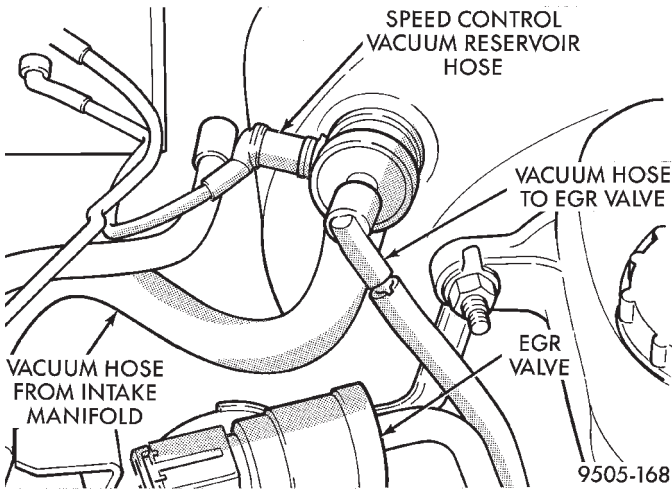

Fig. 57 Vacuum Hose Attachment To Check Valve
(5) Remove the vacuum hoses (Fig. 57) from the check valve located on the power brake vacuum booster.
(10) Connect all previously removed vacuum hoses onto the power brake vacuum booster check valve (Fig. 57).